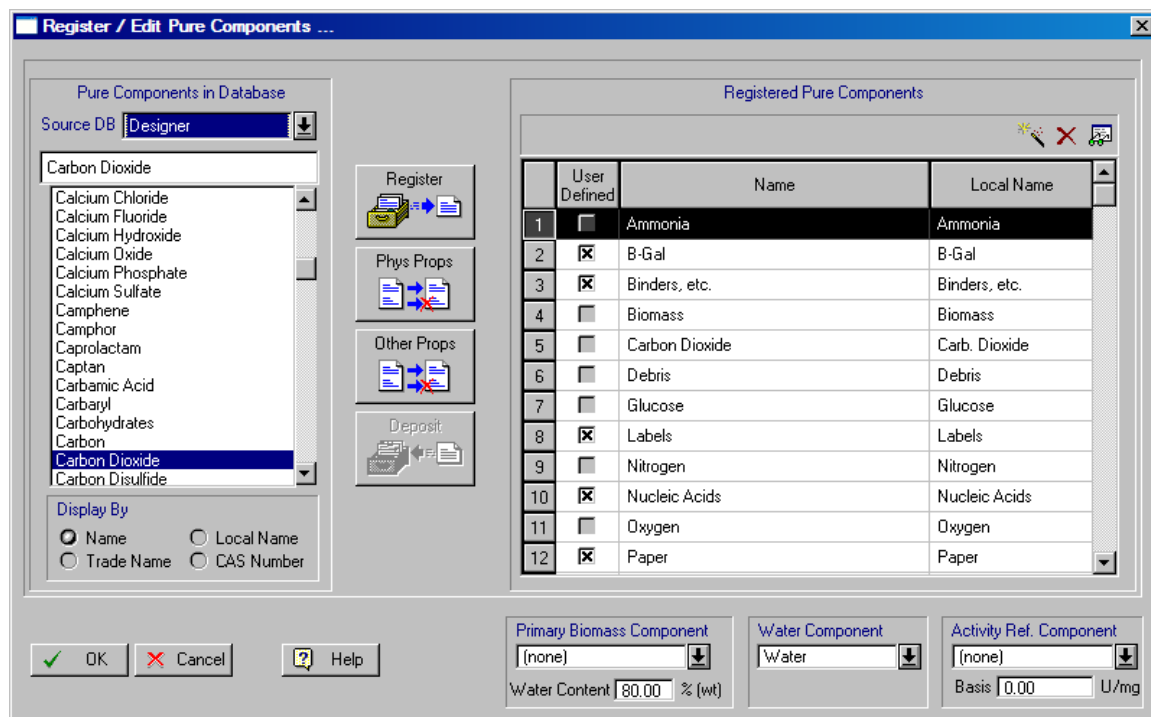

Figure 3.1: Pure component registration dialog.
During initialization of a new design case, you must register all components that will appear anywhere in the flowsheet. It is not necessary to provide all this information in the very beginning since the component list of a design case can be modified at any time. However, as good practice, it is recommended that you consider the components that will appear in your flowsheet and introduce most of them early on, as several of the processing step's initialization parameters depend on the list of components present in the flowsheet (e.g., component separation factors, reaction stoichiometric coefficients, etc.) Components can be registered through the dialog that appears when you select the **Tasks: Edit Pure Components...** menu item from the main menu (Figure 3.1).
Components can either be imported from the program's component databanks or defined for the first time for the needs of the specific design case. As indicated before, there are currently up to three different databanks from which the user can draw components: the Designer databank, the User databank and the DIPPR databank. The contents of the selected component databank are shown in the list box at the left of the dialog (see Figure 3.1). The components in the databank are indexed and can be listed in one of four ways:
1. Locate the component in the registration table, and click on the box that displays the row number of the component (e.g., Number 5 for Carbon Dioxide in Figure 3.1). Notice that when you click on it, the whole row that describes the component is highlighted. Now the component is considered selected.
3. From the table of registered components, select the desired component (whose properties are to be updated) by clicking on the button at the beginning of that component's row (e.g., Number 5 for Carbon Dioxide in Figure 3.1).
3. Select the desired component in the table of registered components by clicking on the button at the beginning of that component's row (e.g., Number 5 for Carbon Dioxide in Figure 3.1).